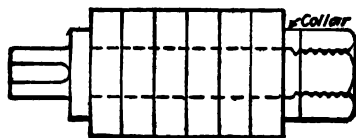

Fig. 14-32. A gang mandrel.
*Gang Mandrel.* A gang mandrel (Fig. 14-32) is useful for turning or milling several pieces such as gear blanks or cutter blanks at the same time. It is especially useful when turning thin pieces.